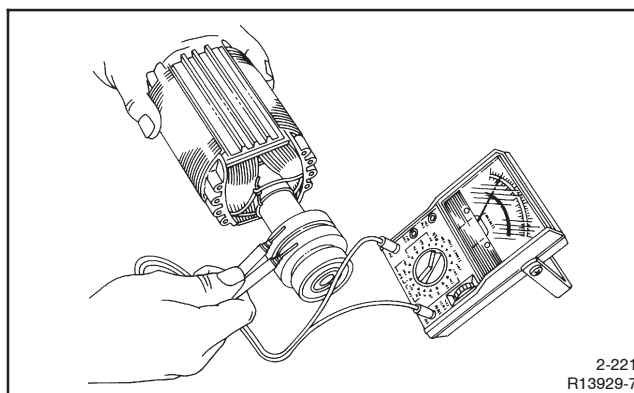

Figure 6-9 Rotor Resistance Check
5. Check the rotor for continuity and resistance. Raise the brushes from the slip rings while performing ohmmeter tests. Measure the rotor resistance (ohms) between the two slip rings; see Figure 6-9. See Section 1.6, Alternator Specifications, for rotor resistance readings. If the resistance readings are low, perform a megohmmeter test on rotor as described in the next step.